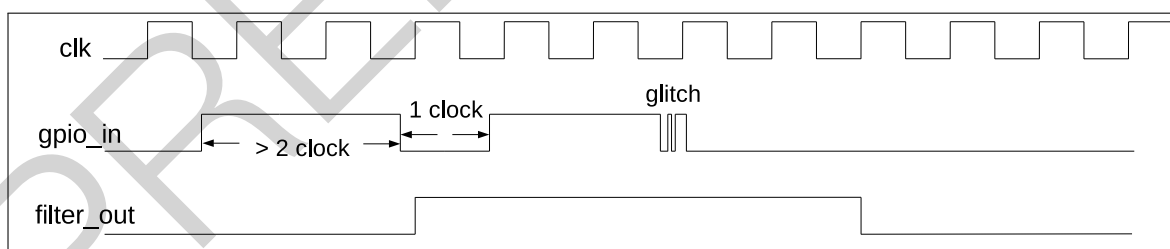

Figure 4-5. Filter Timing of GPIO Input Signals
2. Optionally enable the filter for pin input signals by setting the register `IO_MUX_GPIO n _FILTER_EN`. Only the signals with a valid width of more than two clock cycles can be sampled, see Figure 4-5.